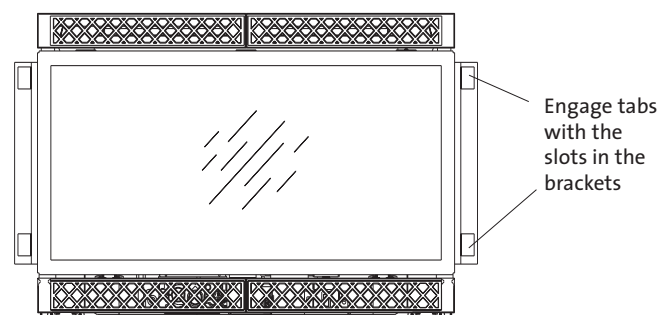

Figure 42. Surround engagement with firebox.
5. Stand the assembled surround up and gently lift to the unit. Align the mounting holes on the sides of the insert with the mounting tabs on the surround. See fig. 42.